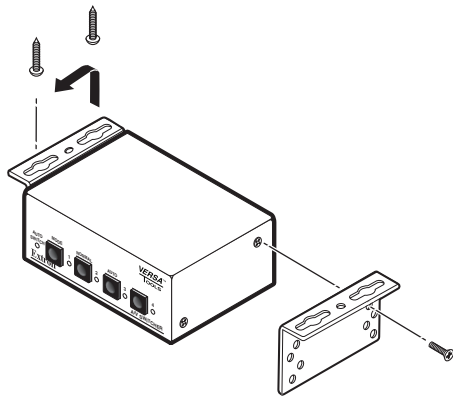

Figure 2-3 — Furniture mounting the MSW
2. Attach the mounting brackets to the MSW with the provided machine screws (figure 2-3).